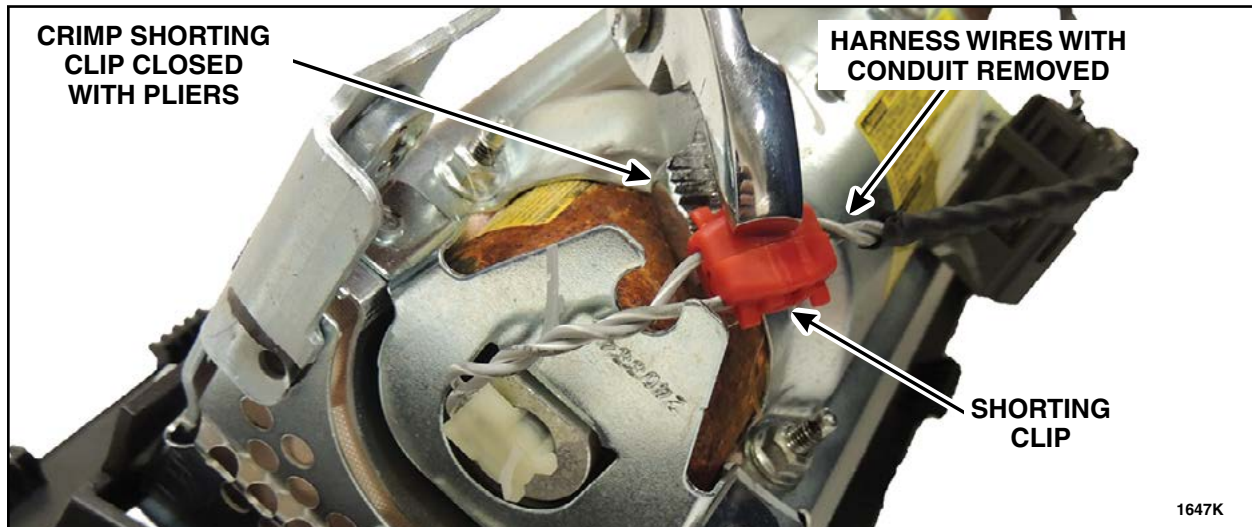

FIGURE 8
3. Position the shorting clip onto the harness wires, and crimp the shorting clip together one side at a time using pliers. See Figure 8.